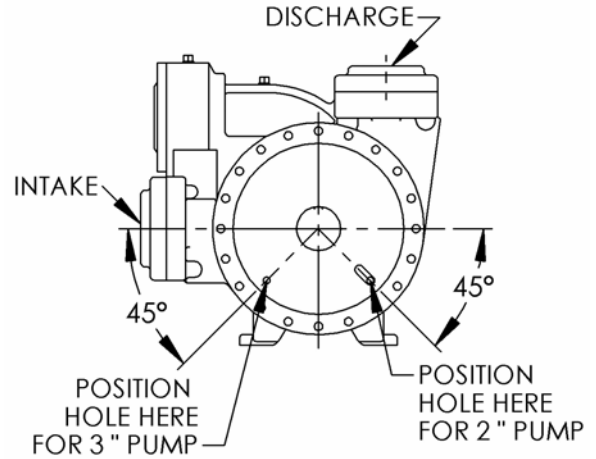

Figure 10 - Disc Relief Hole Location (2 and 3" pumps)
Install the disc (71) on the inboard side of the pump with the seal cavity facing outward and the disc relief hole located as shown in Figure 10.